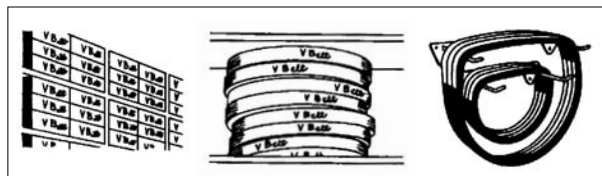

Fig. 16 – Storing belts in the shop
- Do not hang belts on small pegs or nails. Heavy belts could be weakened due to distortion. To prevent this, hang belts across two pegs (Fig. 16)